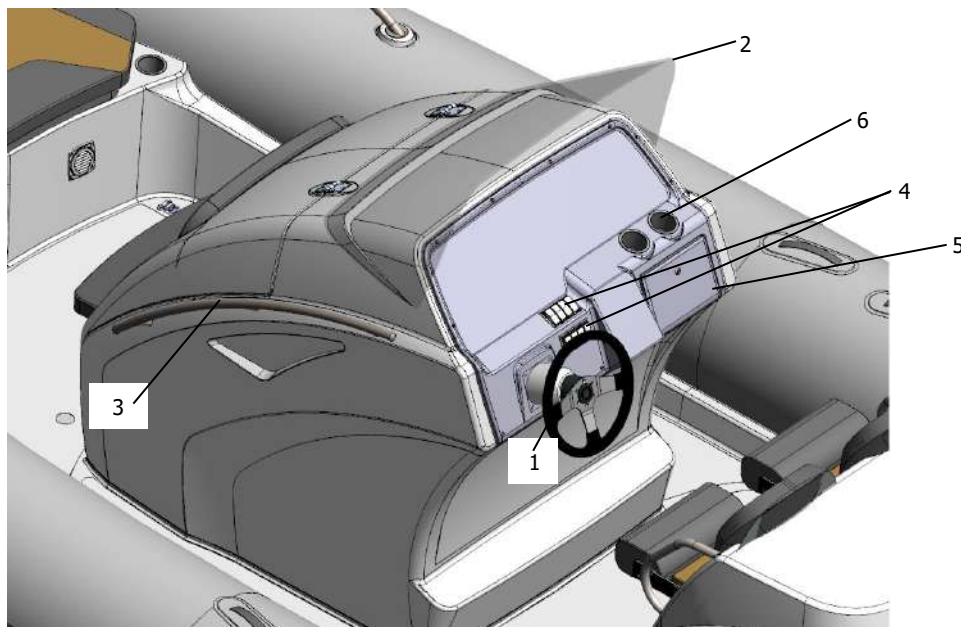

Fig. 62. Steering console components (see the list on the next page).
***Steering console components*** (see fig. 62 on the previous page):